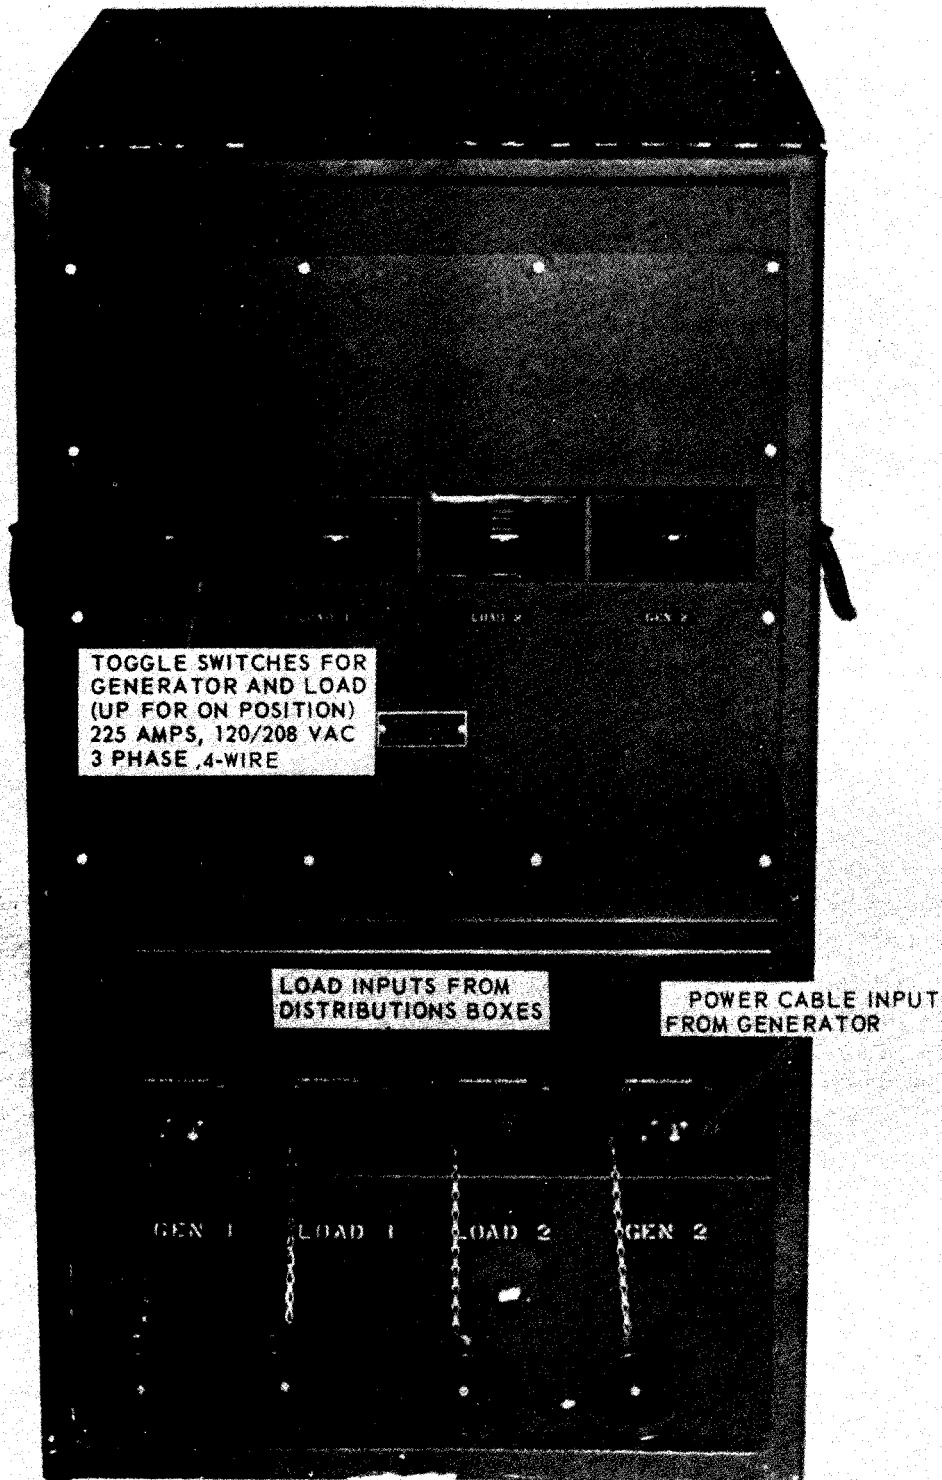

Figure 2-11. Switch box controls (PU-699/M).
(3) Start generators (para 2-14) and run at a fast idle until engines are warmed to proper operating temperature; given to required RPMs then check voltage and cycles.
(4) Close circuit breakers on both generator sets.
(5) Open control panel door (fig. 1-11) and position synchronizing toggle switches to ON (fig. 2-11).
(6) Press by-pass toggle switches down. Both sets now operating are parallel and share the load. (Adjust frequency meters of both generator sets for same frequency, if necessary).
(7) To stop operation, turn synchronizing switches to OFF; open circuit breaker on control panel of generators, and stop generator sets as given in paragraph 2-15. If halt is to be lengthy, remove load cables, parallel cables, and power cables, and install dust covers.
(8) Perform only maintenance checks and services outlined in applicable generator manual (TM 5-6115-239-10 or TM 5-6115-247-15 for 45KW; TM 5-6115-425-12 for 60KW units).